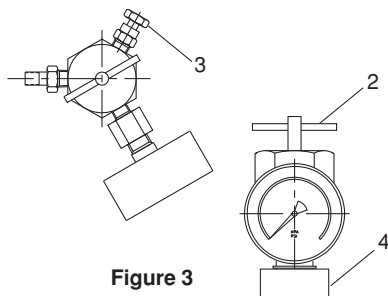

Figure 3
- (A) Remove protective cover from accumulator.
- (B) Refer to Figure 3. Turn the charging device “T” handle (2) all the way in (clockwise) attach charging and gauging head assembly by screwing mounting nut (4) to the gas end of the Diaphragm accumulator.
- (C) Close bleed valve (3).
- (D) Turn “T” handle (2) in counterclockwise motion until rotation stops.
- (E) When finished checking the precharge, turn “T” handle (2) clockwise all the way, then open bleed valve (3) to bleed all residual pressure from the charging device.
- (F) Hold “T” handle (2) to keep from turning, loosen nut (4), remove the assembly from the accumulator.
- (G) Torque the Allen head screw to 14.5 ft-lb + 3 (20 Nm + 9).
- (H) Replace protective cap.
For accumulators having gas valve as shown in Figure 5, attach gauging assembly as shown in Figure 3 following Steps A through D. Then, open bleed valve (3) until all gas pre-charge is relieved from accumulator. Then remove gauging assembly. The accumulator is now safe to remove from the system.